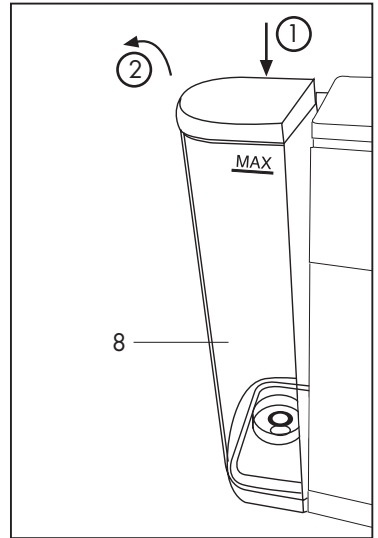

Fig. 1
- To extract the tank (8), press it down and turn it outwards at the same time **(Fig.1)**